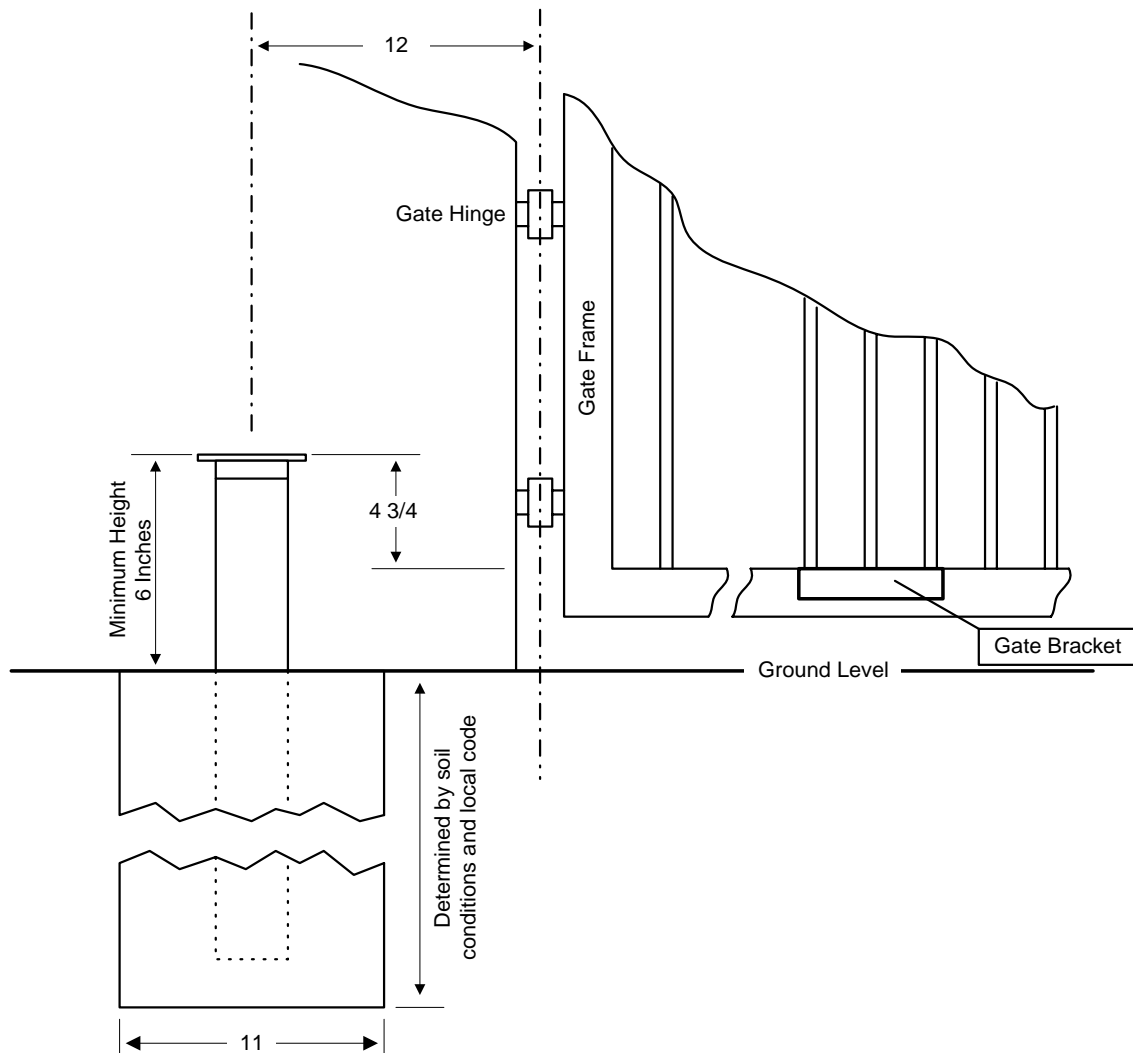
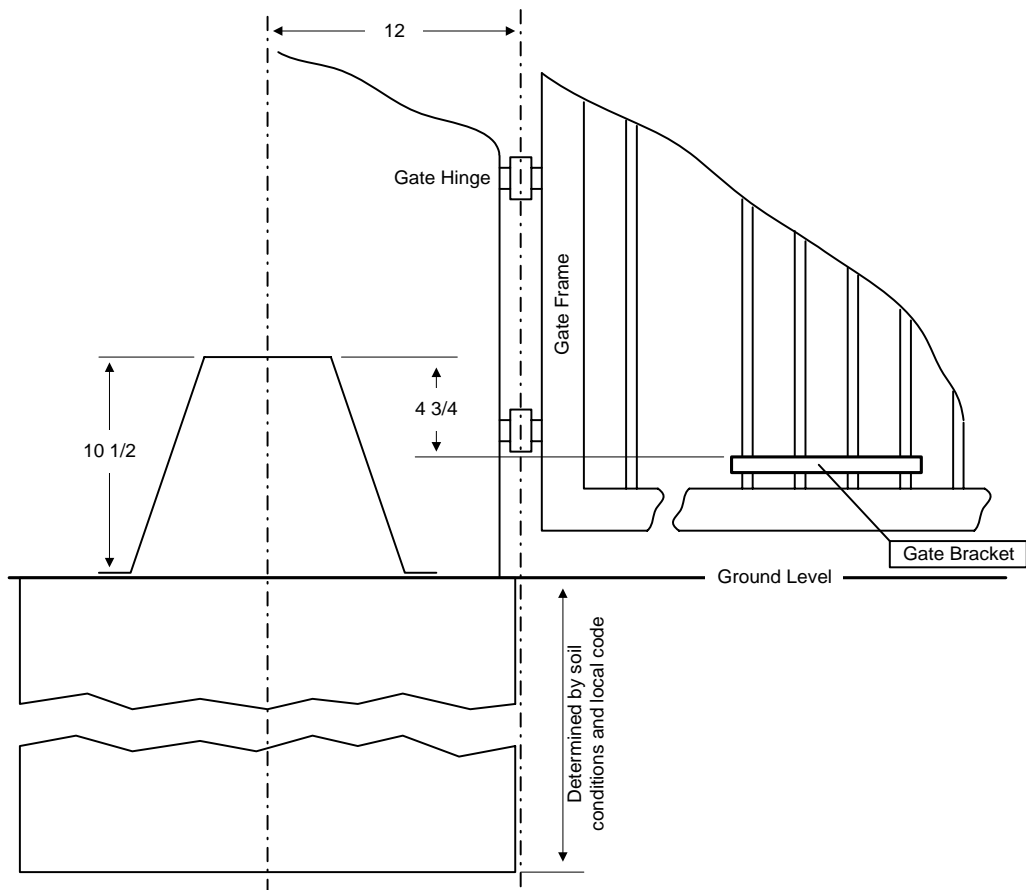
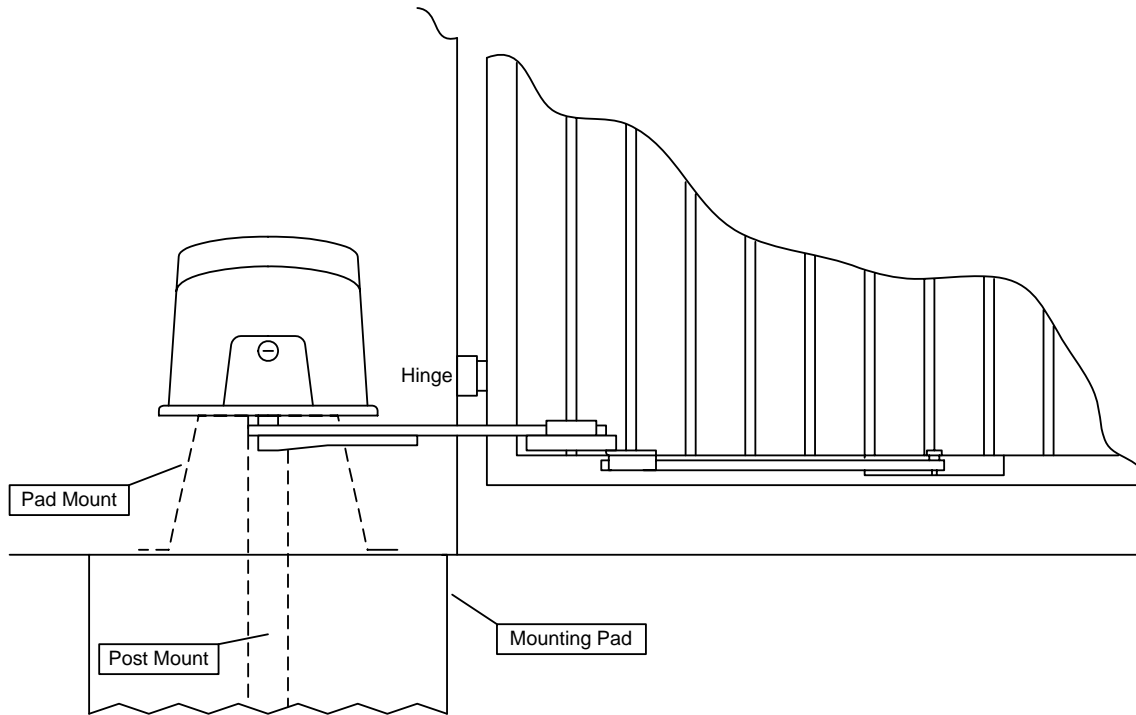

Figure 4
Figure 7
Figure 12
5. Determine the height of the assembly required for your installation. Refer to Figure 4.
- The concrete pad is sized so that there is a minimum of four (4) inches of concrete from the outside edge of the mounting pipes.
- The height requirement is determined by adjusting the mounting plate / pipe assembly so that the top of the mounting plate is 4 3/4 inches above the top of the gate rail (Figure 4). This will allow you to mount the gate bracket onto the bottom rail of the gate and will keep the crank and connecting arms level (see page 8, Figure 12).
- The concrete pad is sized so that there is a minimum of four (4) inches of concrete around the perimeter of the pad.
- Attach the gate bracket to the gate so that the top of the mounting plate is  $4\frac{3}{4}$  inches above the top of the gate bracket as shown in Figure 7. This will keep the crank and connecting arms level (see page 8, Figure 12).
- The position of the gate bracket on the gate is directly related to the height of the concrete pad above ground level. If allowed by local codes, the top of the concrete pad can be flush with ground level as shown in Figure 7, which will allow the gate bracket to be lower on the gate.